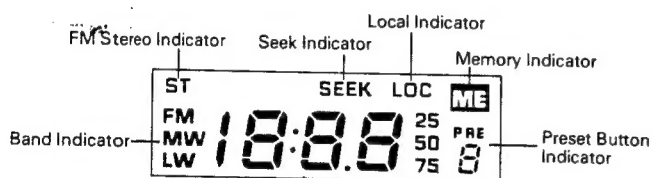

Fig. 9
1. When the Radio Power Switch ② is pushed on, the radio frequency will appear on the Digital Display ⑤. (Fig. 9)
2. Press Band Select Button ③ to select the desired band and Digital Display ⑤ will illuminate to indicate the band.